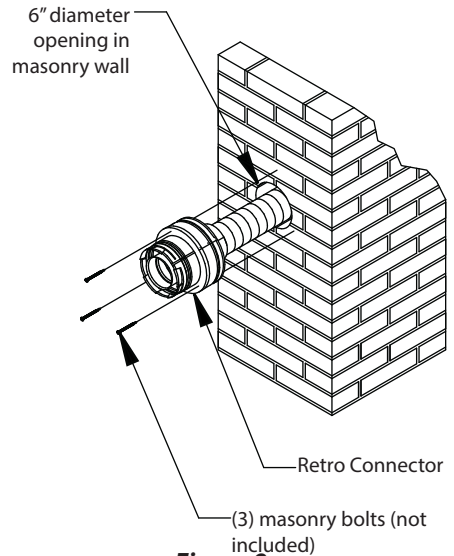

Figure 9
Step 8. Attach the flex to the Retro Connector. Use (3) sheet metal screws to attach the flex liner to the Connector. **See Figure 9.** Mount the Retro Connector to the masonry wall using masonry bolts. Re-drill larger holes on connector as needed. Be careful to insure that the connector is centered in the opening and the mounting holes line up with the masonry wall.